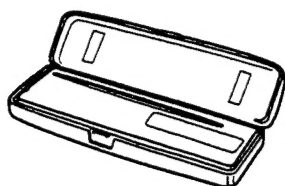

Fig. 6
- Enclose for safekeeping the front panel that is removed in the supplied protective case. (Fig. 6)